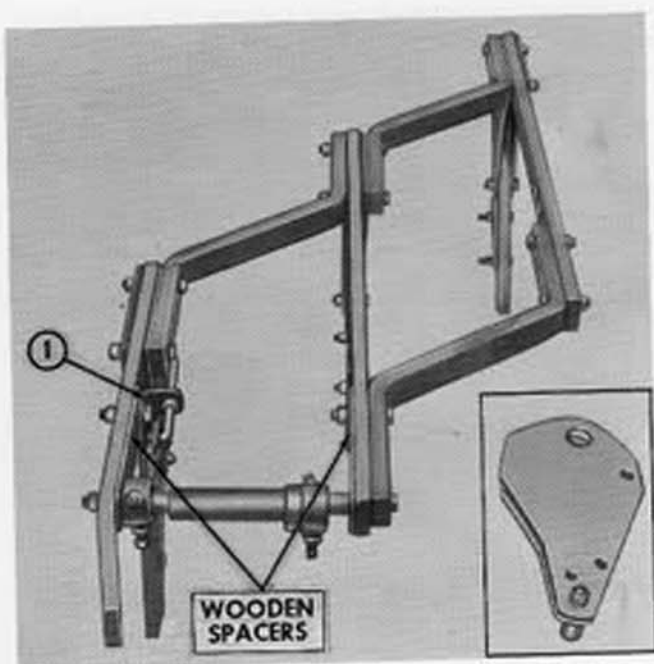
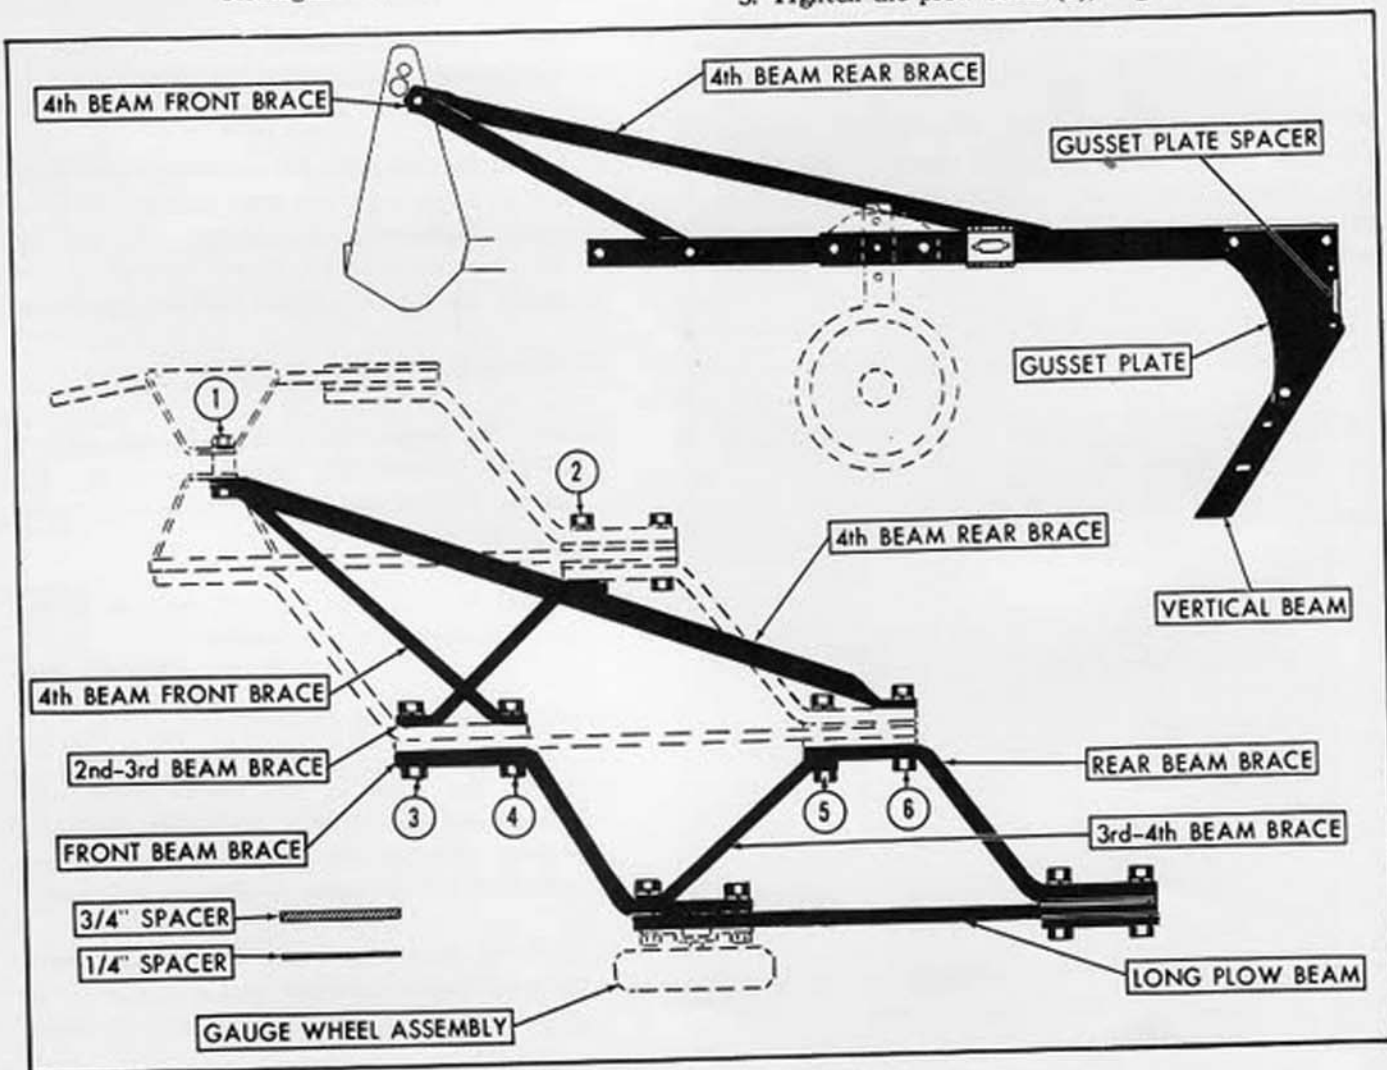
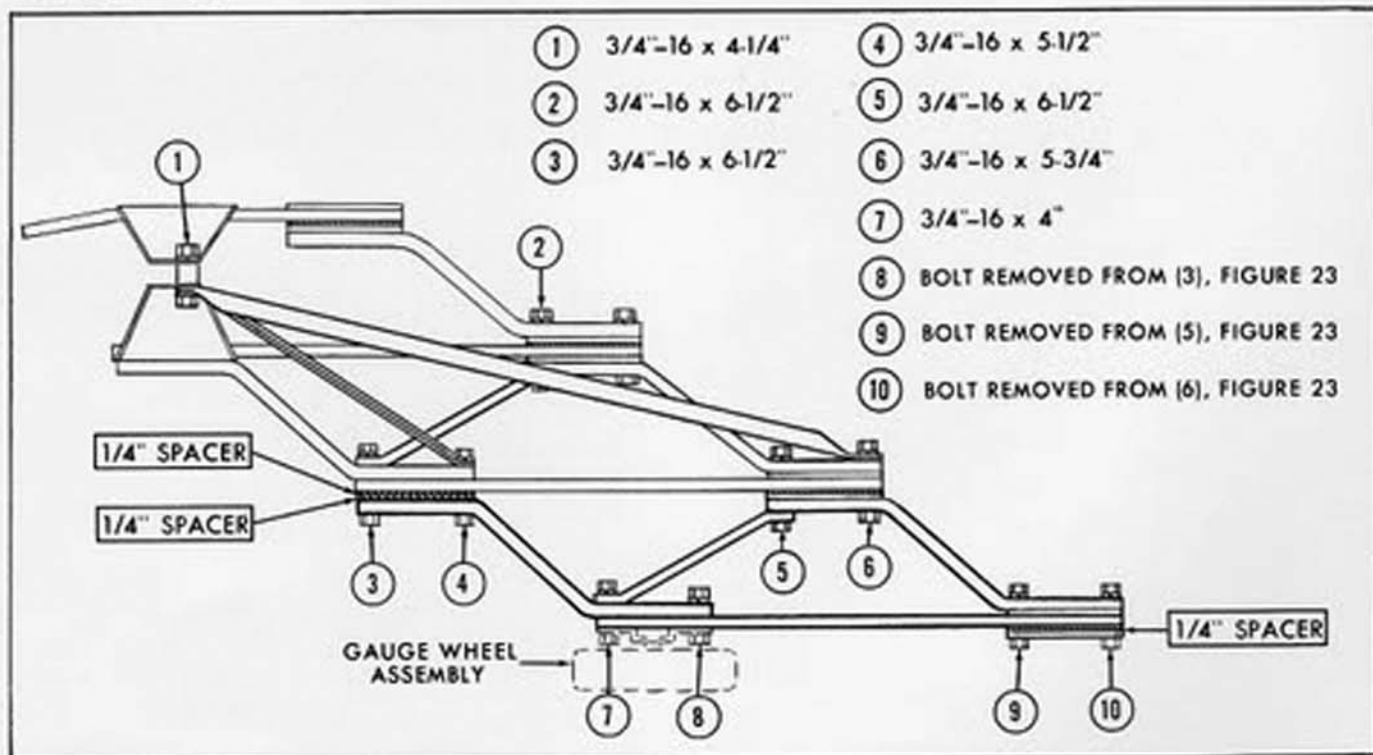

Figure 24
Figure 29 - Fourth Beam Conversion Kit Identification Chart
Figure 30 - 12" Plow
Ford 101 Plow Frames are shipped as shown in Figure 24. Bundles for a complete plow are listed below:
**NOTE:** The wooden spacers, Figure 24, indicate where to attach the A - frames, Steps 1 and 3 below. The spacers must be removed to attach the A - frames. Figures 30, 31, and 32 give additional information about the A - frame attaching points.
2. Reposition the J-bolt bracket (1), Figure 24, as shown in Figure 25.
Figures 30, 31, and 32 show top views of assembled 12", 14", and 16" four bottom plows. The bolts at (1), (2), (3), (4), (5), and (6), Figure 29, are removed in the conversion process. Re-use the bolts at (3), (5), and (6).
On plows already assembled, transfer the third bottom and rolling landside to the fourth beam. If installed, transfer the gauge wheel, Figures 30 through 32.
Attach the braces, spacers, and beam to the three bottom plow following the order indicated by the reference numbers in Figures 30, 31, and 32. Use the bolts, lock washers, and nuts listed next to the reference numbers. Be sure to position the large and small spacers as shown in the applicable top view.
8. Attach the support, Figure 30, by replacing the original bolt and using the 5/8" - 18 x 4-1/2" hex head bolt, lock washer, and nut.